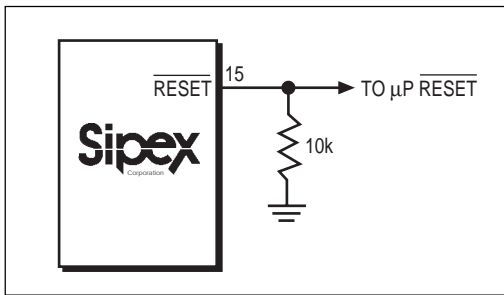

Figure 4. Adding an external pull-down resistor ensures $\overline{\text{RESET}}$ is valid with V_{CC} down to GND .
1.6mA at $\text{VOUT} - 0.5\text{V}$. When no backup battery is used, $\overline{\text{RESET}}$ output is valid down to $V_{CC} = 1\text{V}$, and an external $10\text{k}\Omega$ pull-down resistor on $\overline{\text{RESET}}$ ensures that $\overline{\text{RESET}}$ will be valid with V_{CC} down to GND as shown on Figure 4. As V_{CC} goes below 1V , the gate drive to the $\overline{\text{RESET}}$ output switch reduces accordingly, increasing the $r_{DS(\text{ON})}$ and the saturation voltage. The $10\text{k}\Omega$ pull-down resistor ensures the parallel combination of switch and external resistor is $10\text{k}\Omega$ and the output saturation voltage is below 0.4V , while sinking $40\mu\text{A}$. When using a $10\text{k}\Omega$ external pull-down resistor, the high state for the $\overline{\text{RESET}}$ output with $V_{CC} = 4.75\text{V}$ is 4.5V typical. For battery voltages greater than or equal to 2V , $\overline{\text{RESET}}$ remains valid for V_{CC} between 0V and 5.5V . $\overline{\text{RESET}}$ will be asserted during the following conditions: